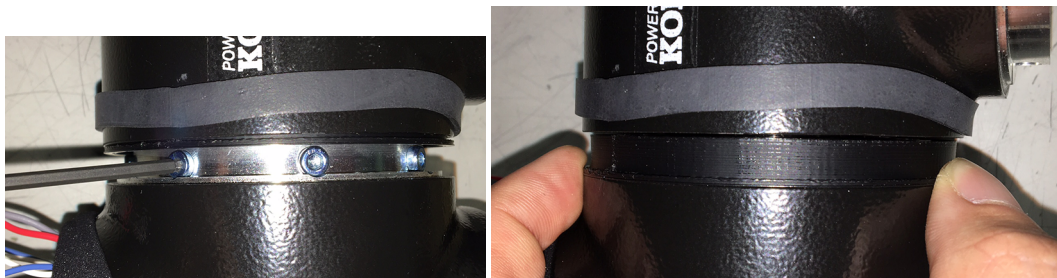

Figure 6: Units are bolted together (left), and the plastic ring is set to cover the screws (right).
4. After the two RGM units are bolted together and the screws are properly torqued (**Figure 6 left**), slide the plastic ring outward so it covers the screws and touches the stationary flange of the second RGM unit (**Figure 6 right**).